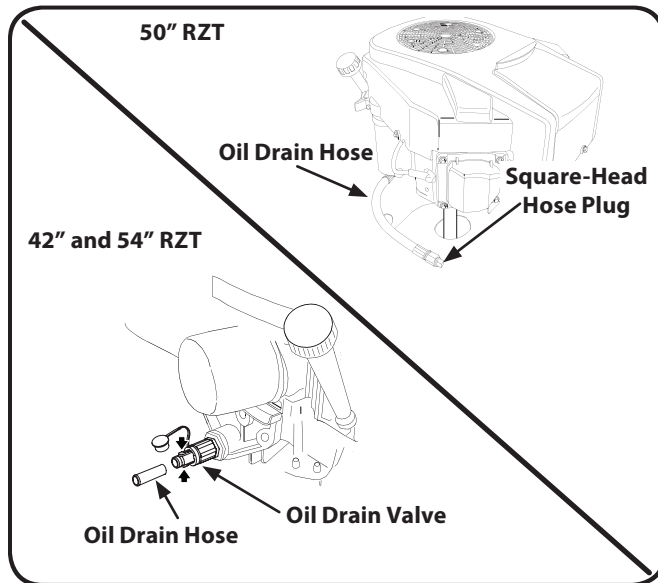

Figure 6-1
1. Pop open the protective cap on the end of the oil drain valve to expose the drain port. See Fig 6-1.
2. While holding the free end of the oil drain hose over the oil collection container, unscrew the square head hose plug from the end of the hose. See Figure 6-1. Drain the engine oil into the collection container.